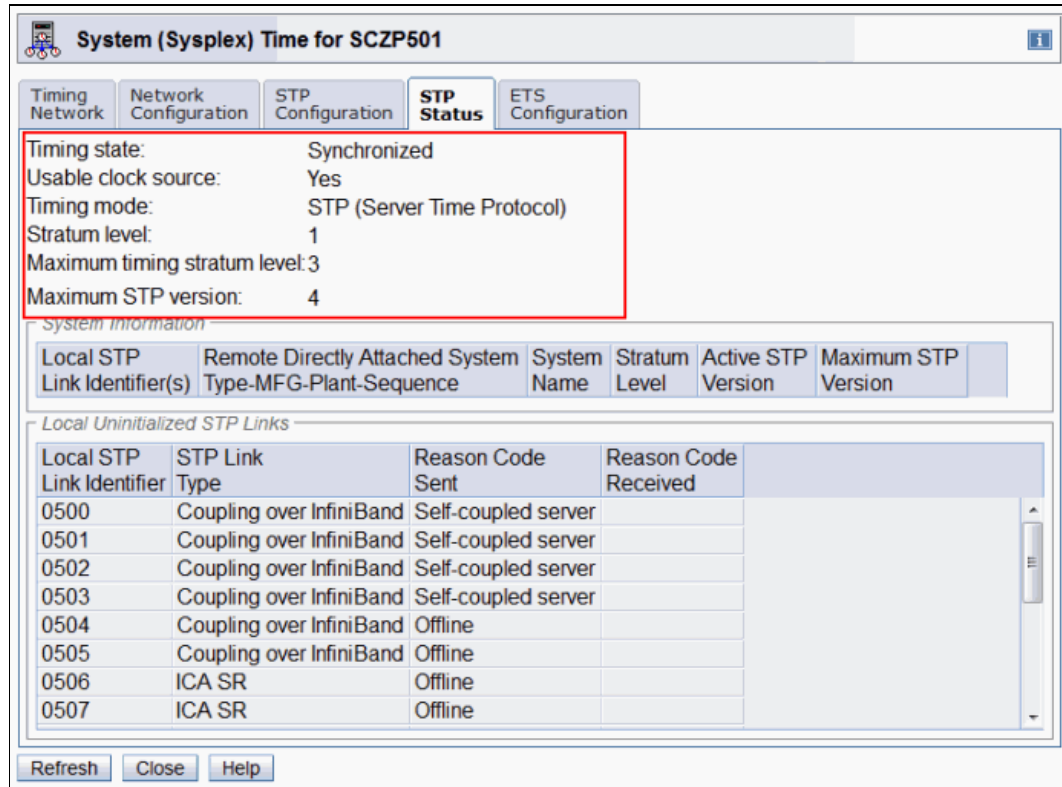

Figure 9-53 System (Sysplex) Time: STP Status panel after PTS roll is set
- All steps to configure STP-only CTN are complete. To confirm, click the **STP Status** tab and verify that following items are displayed correctly (Figure 9-53 on page 538):